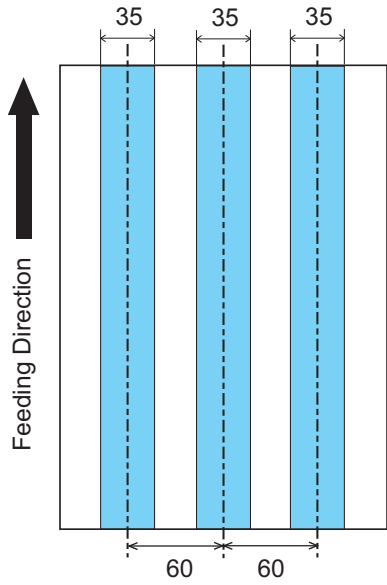

Fig.1
- Punched holes are not allowed within 35 mm (1.4 in) of the vertical lines of the center, right and left sides of the the document as shown in Fig. 1.
- Other paper shall not be glued within 35 mm (1.4 in) of the vertical lines of the center, right and left sides of the the document as shown in Fig. 1.
- The area shown in Fig. 1 can be changed using the Software Operation Panel. For details, please refer to "8.4 Multifeed Detection" on page 190.